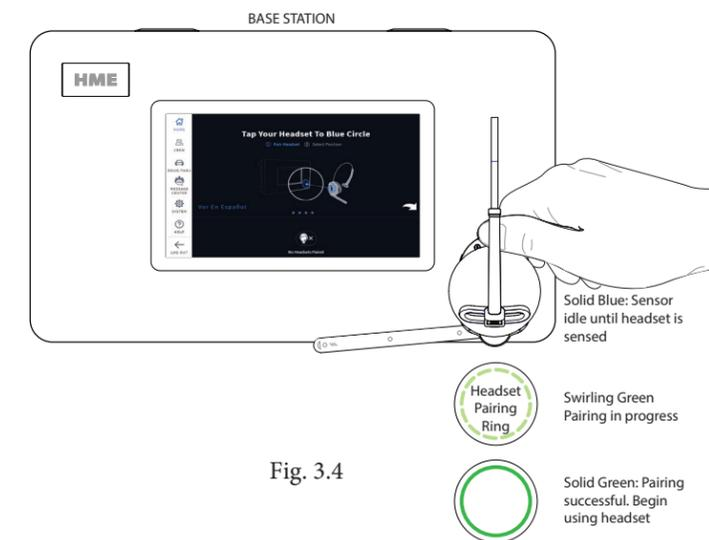

Fig. 3.4
- Pair the headset by holding the headset's keypad side against the Headset Pairing Ring (solid blue circle) on the base station (see Fig. 3.4). Pairing begins automatically as soon as the headset is sensed.